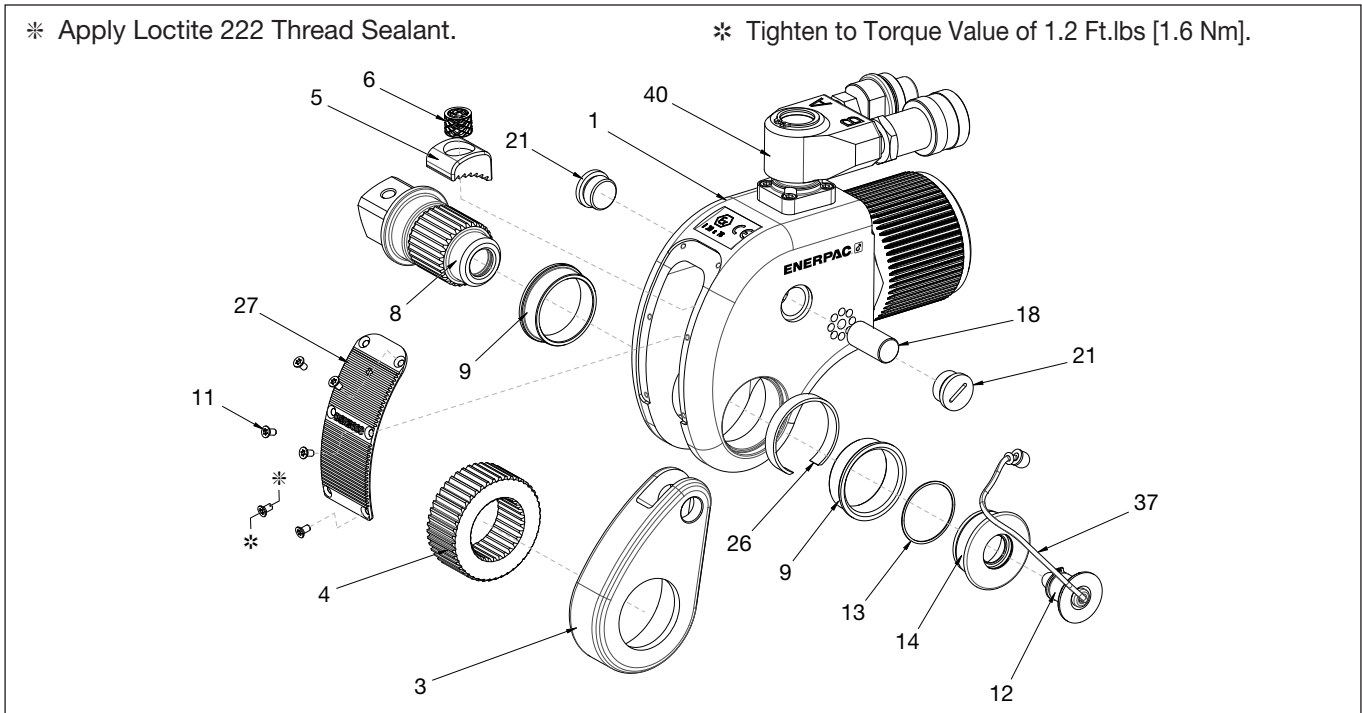
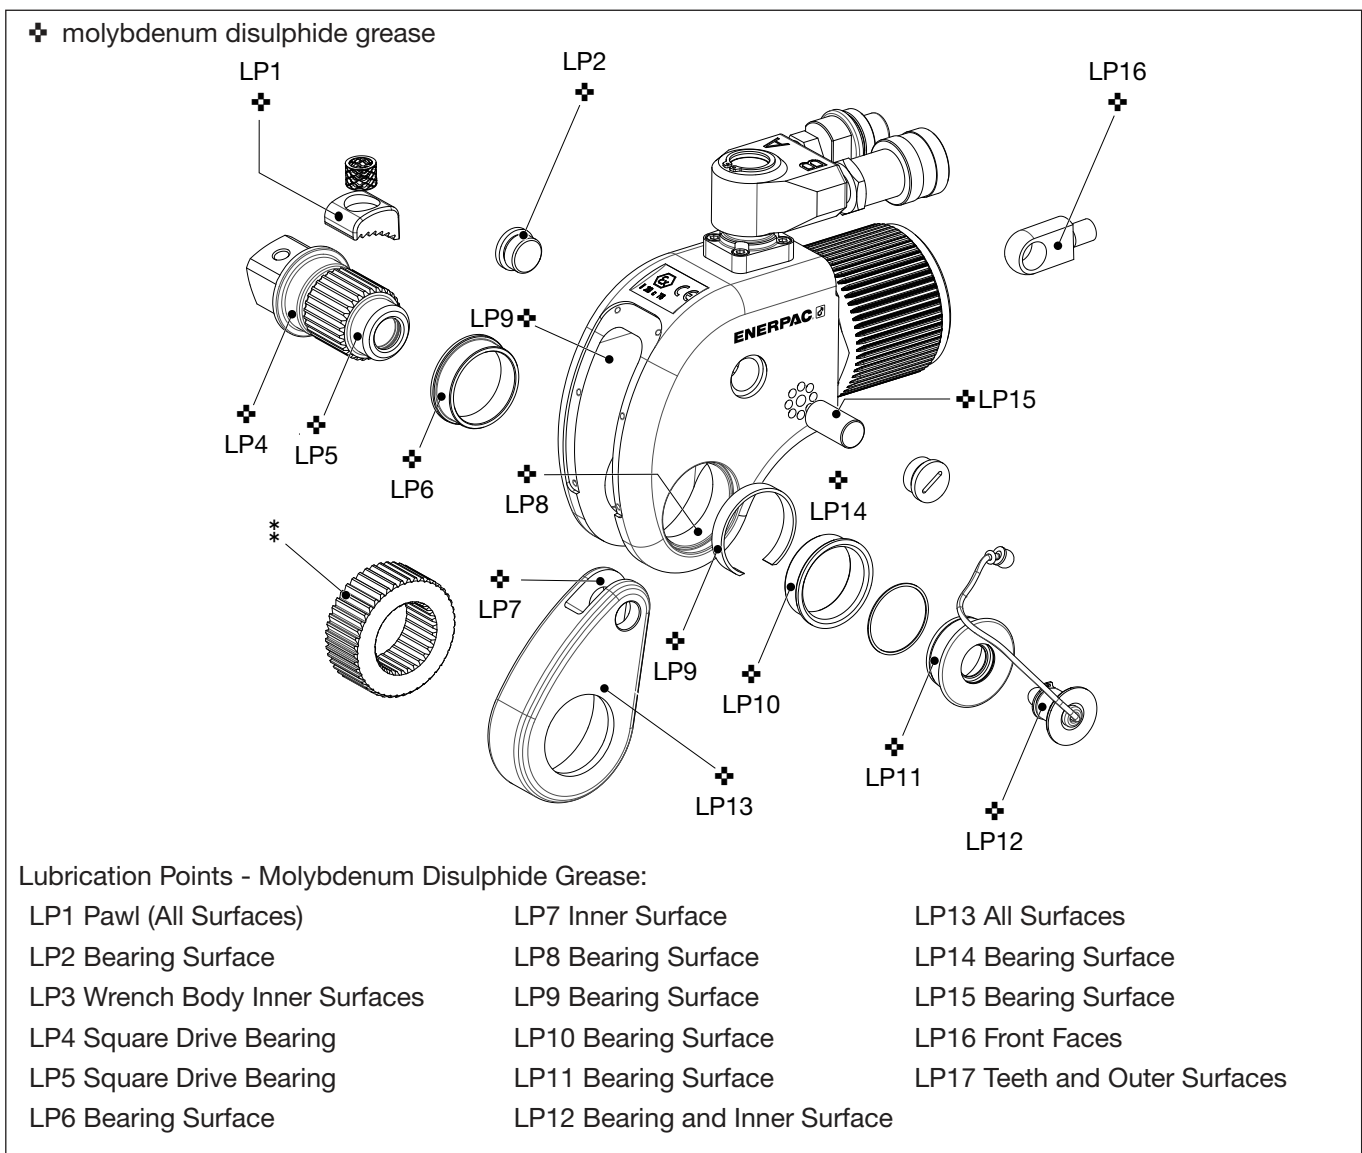

Figure 9: Exploded Torque Wrench Head
Figure 10: Torque Wrench Head Lubrication Points
## 7.1 Preventative Maintenance (Fig.9/ Fig.10)
1. Check tightness of swivel assembly retaining screws (40) and piston sleeve (7) (see Section 7.2).
5. Remove the shroud screws (11) and remove the shroud (27). The tether (37) will continue to link the shroud to the drive release assembly. To remove the tether unscrew the round screw, slide off the washer, and remove the tether line.
6. Remove the square drive (8) and drive retaining release assembly (12, 13, 14) along with the two bushes and drive retainer (9, 26).
7. Disengage the two access plugs (21), and slide out the rod end pin (18). The drive plate (3) can now be separated from the wrench body (1).
8. Remove the ratchet (4), pawl (5) and pawl wave springs (6).
11. Dry all components. Apply a thin coat of molybdenum disulphide grease in the areas shown in Figure 10.
**NOTICE** Be sure that the ratchet, drive plate, pawl, pawl wave spring, square drive, and access plugs are correctly installed in the following step. Ensure that the square drive is inserted through the drive plate and rod end of the piston assembly before installing the access plugs. Failure to install these parts correctly will result in component damage. Refer to figures 9 and 10.
1. Remove circlip (13).
2. Separate the button mechanism (12) from the retaining block (14).
5. Reassemble retaining button assembly (12) and bushing (14) and secure with circlip (13).
6. Apply a thin coat of molybdenum disulphide grease in the areas shown in Figure 10.